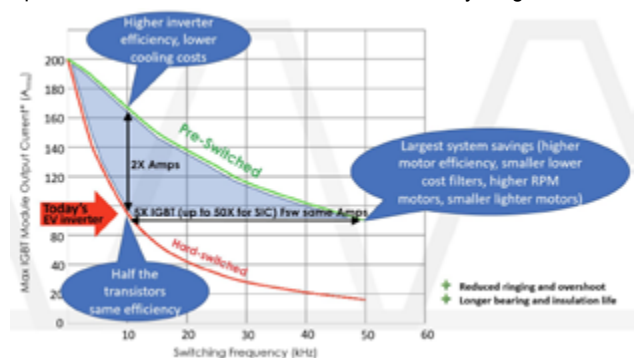

Figure 4: Pre-Switch allows new design freedom for engineers (Output current vs switching frequency for an IGBT EconoDual 2 Module)
Pre-Switch Inc. was founded in 2016 with the sole purpose of bringing soft-switching into the world of DC/AC and AC/DC inverters. Pre-Switch has overcome this challenge by using Artificial Intelligence (AI) to constantly adjust the relative timing of elements within the switching system required to force a resonance to offset the current and voltage wave forms – thereby minimizing switching losses. Pre-Switch is enabling customers to build IGBT systems with switching frequencies 4x-5x faster than their hard-switched IGBT systems and SiC systems up to 35x faster than their hard-switched SiC systems. This offers engineers a considerable new design freedom (Figure 4). In case of a SiC based EV inverter, using Pre-Switch technology enables engineers to increase Fsw from the ubiquitous 10kHz up to 100kHz and can reduce dimension, weight, and system cost in the inverter. More importantly, by increasing the switching frequencies, Pre-Switch technology helps in creating a near perfect sine wave without any output filter, which can lead to an increased battery range.